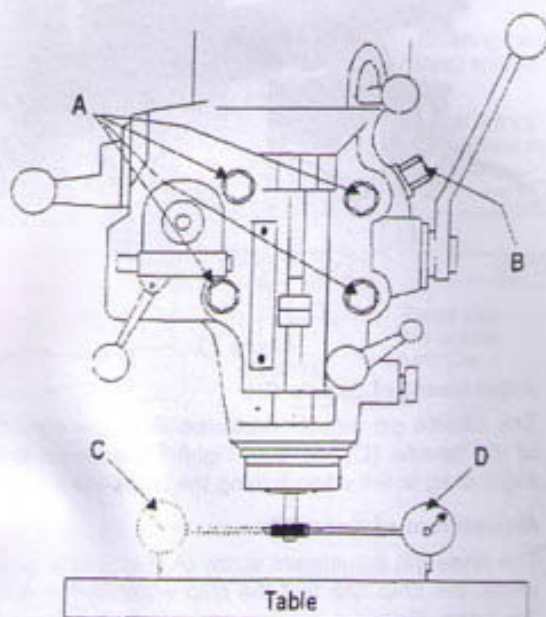

Figure 21
5. Set up a dial indicator in a collet and secure using the draw bar (refer to Figure 21).
- c. Set up a dial indicator in a collet and secure using the draw bar (refer to Figure 21).